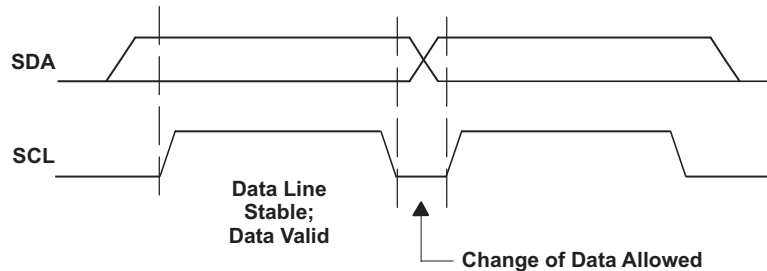
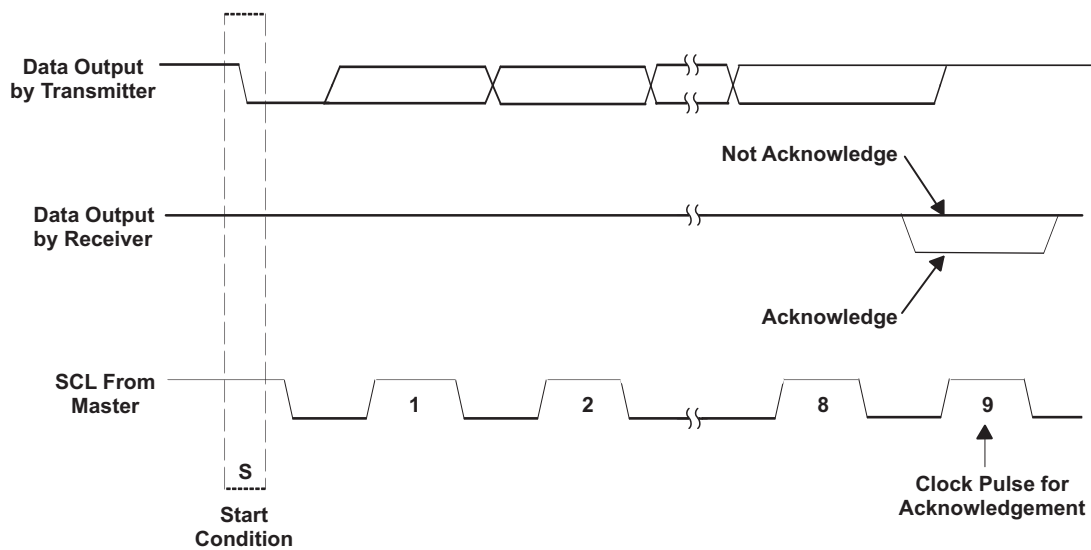

Figure 10. I2C Bit Transfer
Figure 11. I2C Acknowledge
- The master then generates the SCL pulses and transmits the 7-bit address and the *read/writedirection bit* R/W on the SDA line. During all transmissions, the master ensures that data is *valid*. A *valid data* condition requires the SDA line to be stable during the entire high period of the clock pulse (see Figure 10). All devices recognize the address sent by the master and compare it to their internal fixed addresses. Only the slave device with a matching address generates an *acknowledge* (see Figure 11) by pulling the SDA line low during the entire high period of the ninth SCL cycle. On detecting this acknowledge, the master knows that a communication link with a slave has been established.